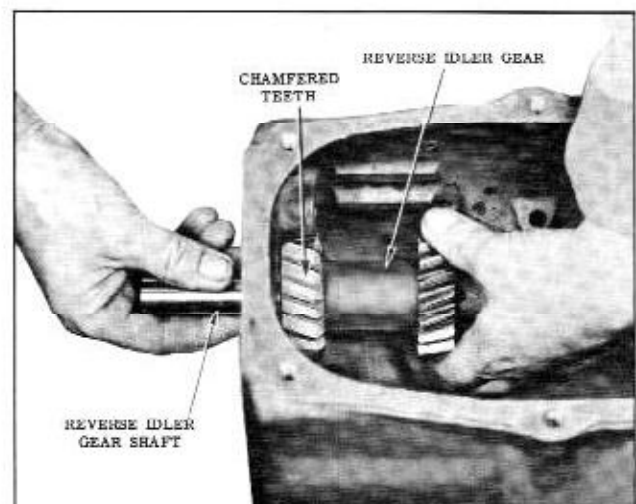

Fig. 11-19 Removing Reverse Idler Gear Shaft
26. Remove the reverse idler gear shaft, gear, and thrust washer from the case. (Fig. 11-19)